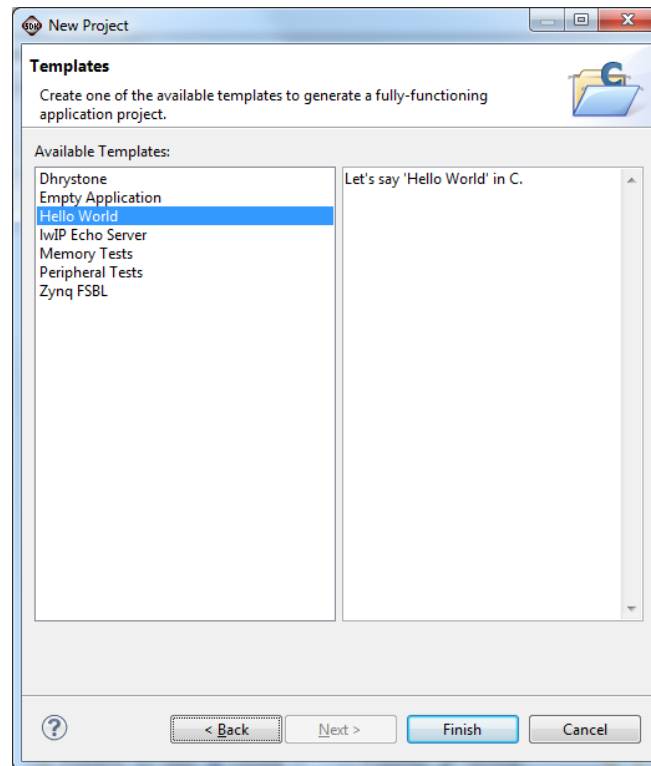

Figure 35: SDK New Project Template
5. From the Available Templates, select **Hello World** (FIGURE 35) and click **Finish**.